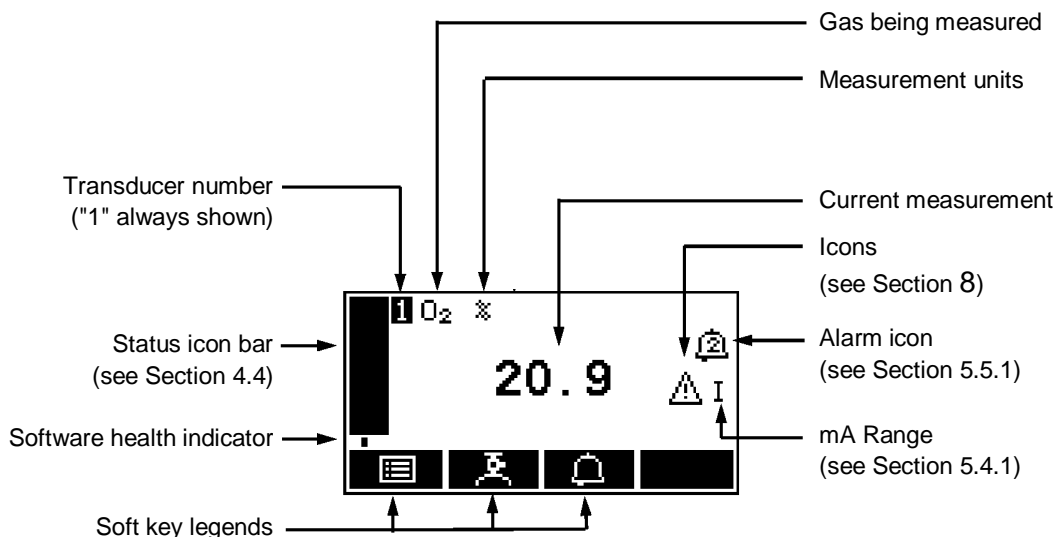

Figure 2 – The measurement screen
The screen will initially display the "System Check" task message. The measurement screen is then displayed, as shown in Figure 2 below.
The four soft key legends at the bottom of the measurement screen (Figure 2) correspond to the four soft keys on the front of the instrument. (The first, left-most, legend corresponds to the function of soft key 1, the second legend corresponds to the function of soft key 2, and so on.) On the measurement screen, the soft key functions are as follows: